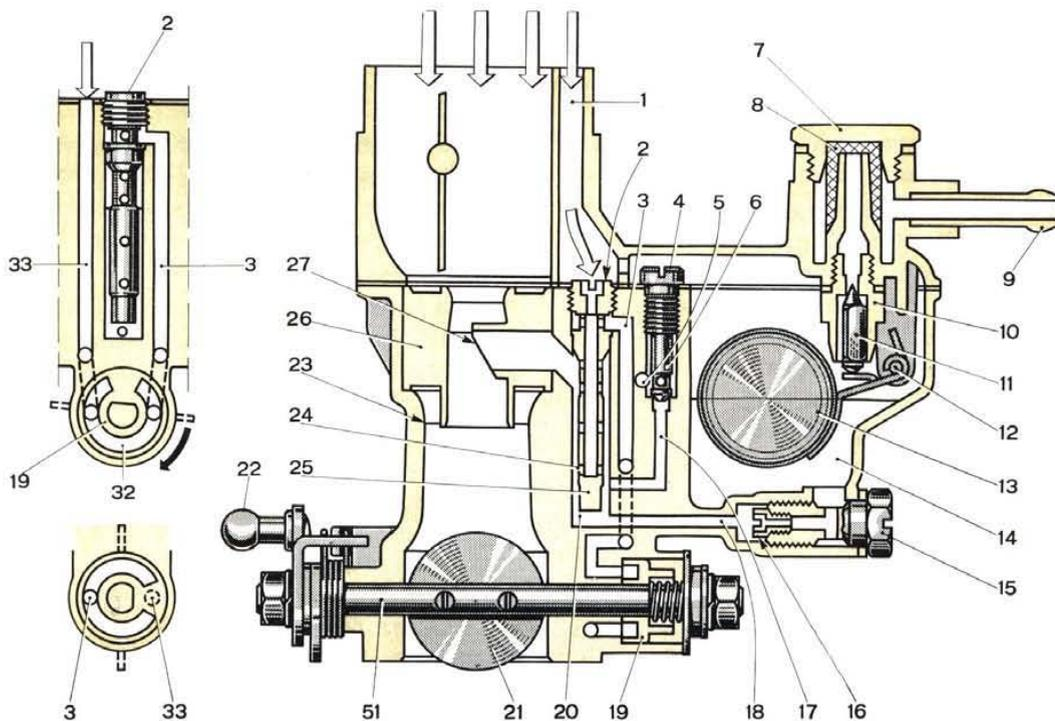

Fig. 142 - Diagrammatic section views of Weber carburetors « 30 ICF » and « 30 ICF 7 ».
From the diagram in fig. 142 it will be seen that the air from the cleaner flows down through the auxiliary Venturi (26) where it mixes with the fuel from the discharge tube (27) and then via the restriction formed by the primary Venturi (23), the air is delivered to engine cylinders after the opening of the throttle valve (21).
The leaner device (fig. 142) consists of a diaphragm (19), operated by the throttle spindle, a passage (33) in communication with the carburetor air intake, and another passage (3) to the well downstream the air bleed jet (2).